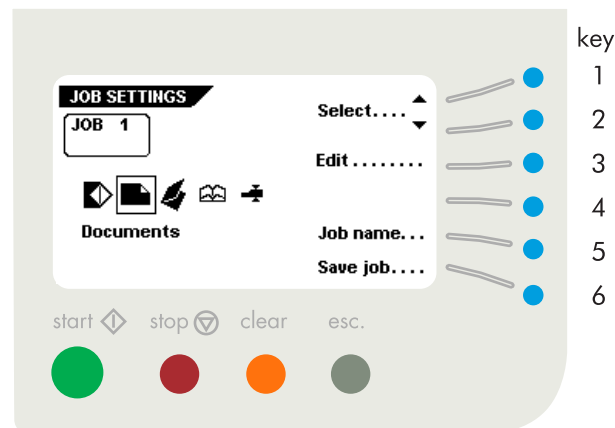
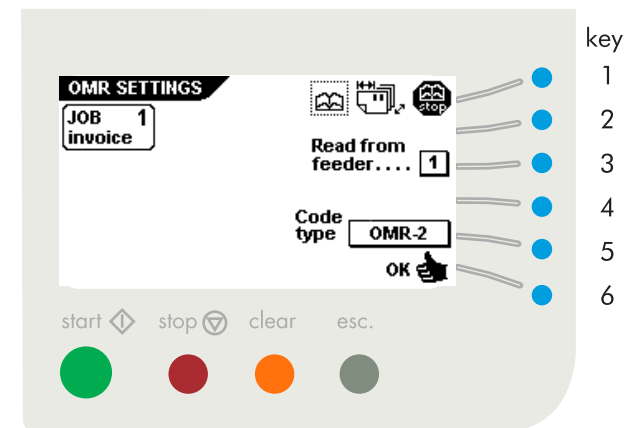

Fig. 7
Fig. 8
When "new job" or "edit job" is selected, the job settings menu is displayed. When the SI 76 is equipped with OMR, the "job settings" menu is provided with an additional settings menu indicated by the  symbol as shown in fig. 7.
When the "OMR settings" menu is selected (with key 1 or 2 and key 3 to edit (fig. 7)), the screen as shown in fig. 8 is displayed. The following choices are available:
- go to the OMR position settings screen (key 1);
- select the feeder to read from (key 3) (depending on the selected code type, a feeder can be selected as reading feeder);
- select the needed reading code (key 5);
- confirm settings by pressing "OK" (key 6) which will get you back to the "job settings" menu.